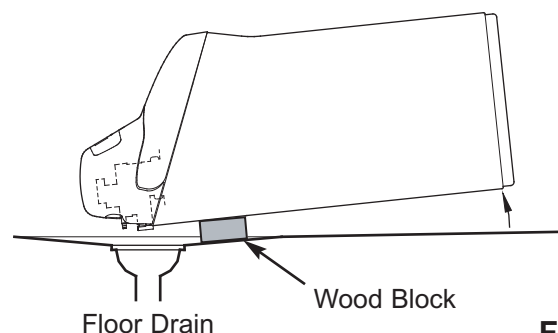

FIG. 42
6. Lay a piece of 2 inch thick board near the floor drain (See Figure 42).